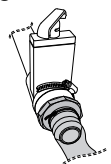

Figure 13.2j
7. Screw in the adapter with hose that was included in the equipment bay; attach it to the QuickDrain, Figure 13.2j. Make sure to direct the hose to an area where the water will drain properly.